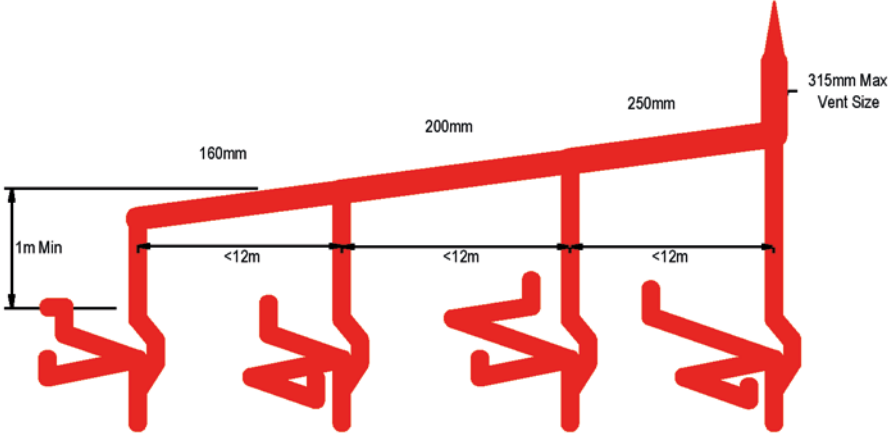

Figure3b
- 2.4 Stack vents may offset above the highest fixture but must be increased by 1 HDPE pipe size when the horizontal exceeds 12m (see figure 3b).